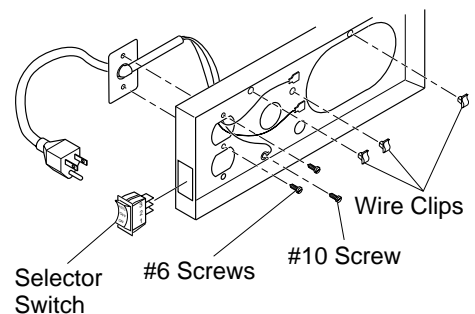

Figure 3 - Installing Power Cord, Mounting Plate, and Selector Switch
5. Route terminal end of power cord through large hole near top of left floor support bracket. Make sure to pass the cord from the outside (left side) towards the center of firebox (see Figure 3).
6. Using two #6 screws provided attach power cord mounting plate to the outside face of left floor support bracket. Drive screws from inside (right side) of floor support bracket. Attach the plate so that the power cord is directed towards rear of firebox (see Figure 3). Tighten screws firmly.
10. Mount selector switch to front flange of left floor support bracket. Align graphics on switch upright and push firmly to snap switch into rectangular hole. Push the selector switch to the off (middle) position (see Figure 3).
11. Install three plastic wire clips provided into floor support bracket (see Figure 3). Secure by pushing clips firmly into holes.
12. Attach green ground wire ring terminal to floor support bracket using #10 sheet metal grounding screw provided (see Figure 3, page 2). Tighten screw firmly.